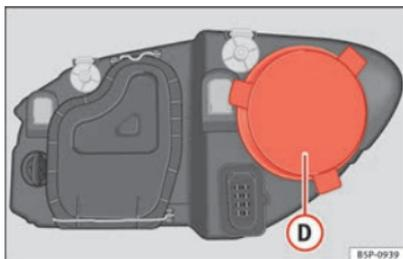

Fig. 188 Side light
- Remove the cover ⇒ Fig. 188 ① by pulling on this.